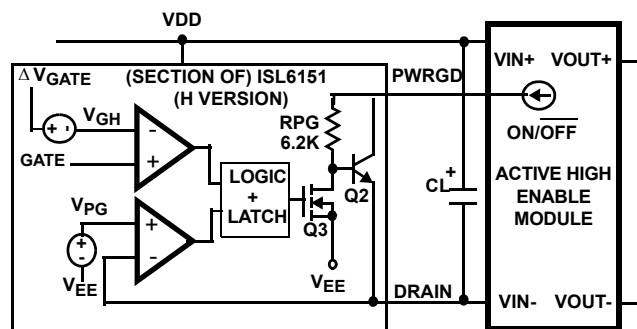

FIGURE 33. ACTIVE HIGH ENABLE MODULE
**ISL6151** (H version; Figure 33): Under normal conditions ( $\text{DRAIN voltage} - V_{EE} < V_{PG}$ , and  $\Delta V_{\text{GATE}} - V_{\text{GATE}} < V_{GH}$ ), the Q3 DMOS will be on, shorting the bottom of the internal resistor to  $V_{EE}$ , and turning Q2 off. If the pull-up current from the external module is high enough, the voltage drop across the 6.2k $\Omega$  resistor will look like a logic high (relative to DRAIN). Note that the module is only referenced to DRAIN, not  $V_{EE}$  (but under normal conditions, the FET is on, and the DRAIN and  $V_{EE}$  are almost the same voltage).
The Enable input often has a pull-up resistor or current source, or equivalent built in; care must be taken in the ISL6151 (H version) output that the given current will create a high enough input voltage (remember that current through the RPG 6.2k $\Omega$  resistor generates the high voltage level; see Figure 33).